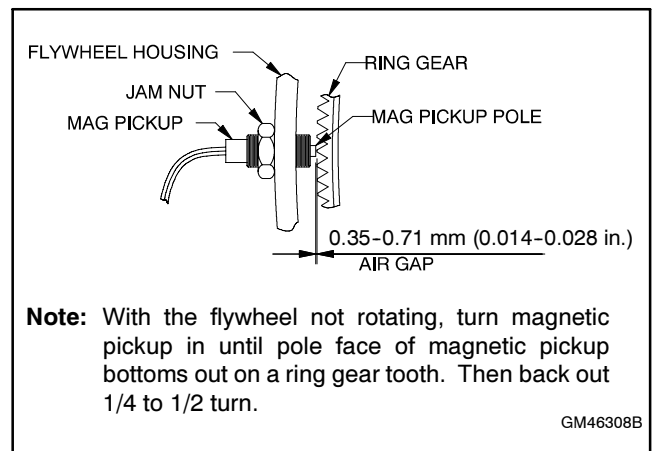

Figure 6 Magnetic Pickup Adjustment
2.9 See Figure 6 and follow these steps to adjust the magnetic pickup: